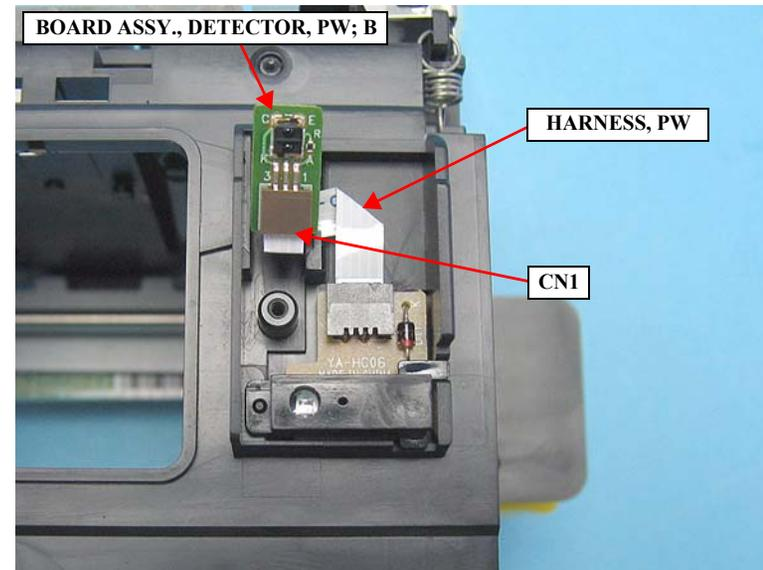

Figure 4-145. Removing the BOARD ASSY., DETECTOR, PW; B
3. Disconnect the HARNESS, PW from CN1 connector on the BOARD ASSY., DETECTOR, PW; B, and remove the BOARD ASSY., DETECTOR, PW; B. See Figure 4-145.